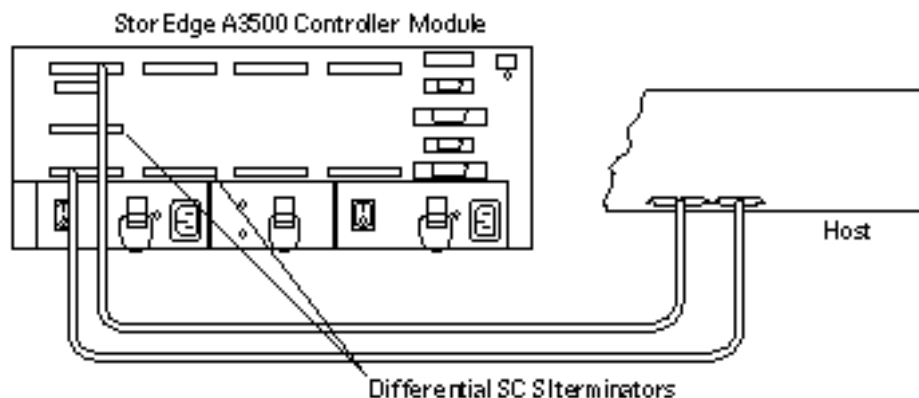

Figure 7-2 Example of a StorEdge A3500 disk array
4. Connect the differential SCSI cable between the node and the disk array as shown in Figure 7-2.